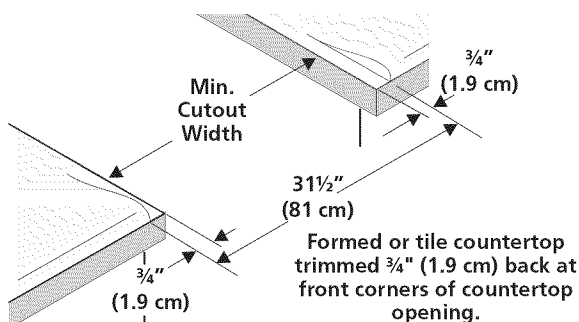

Figure 1
- **Formed front-edged countertops** must have molded edge shaved flat $\frac{3}{4}$ " (1.9 cm) from each front corner of opening (Figure 1).
- **Tile countertops** may need trim cut back $\frac{3}{4}$ " (1.9 cm) from each front corner and/or rounded edge flattened (Figure 1).